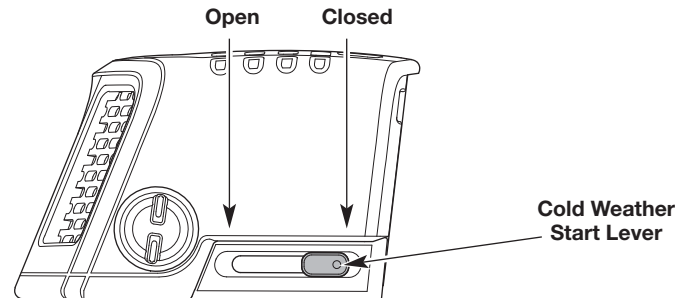

Fig. 10
**IF COLD...** In cold weather (below 40°F), move the cold weather start lever to the **Closed** position (Fig. 10). **DO NOT** move the cold weather start lever to the **Closed** position if the temperature is above 40°F.
**IF COLD...** In cold weather (below 40°F), move the cold weather start lever back to the **Open** position (Fig. 10).
- IF COLD...** In cold weather (below 40°F), move the cold weather start lever to the **Closed** position (Fig. 10). **DO NOT** move the cold weather start lever to the **Closed** position if the temperature is above 40°F.